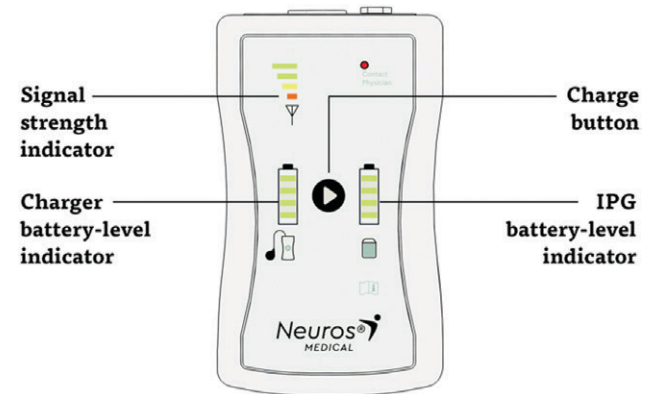

Figure 2: Altius Battery Charger
- Figure 2: Altius Battery Charger 11